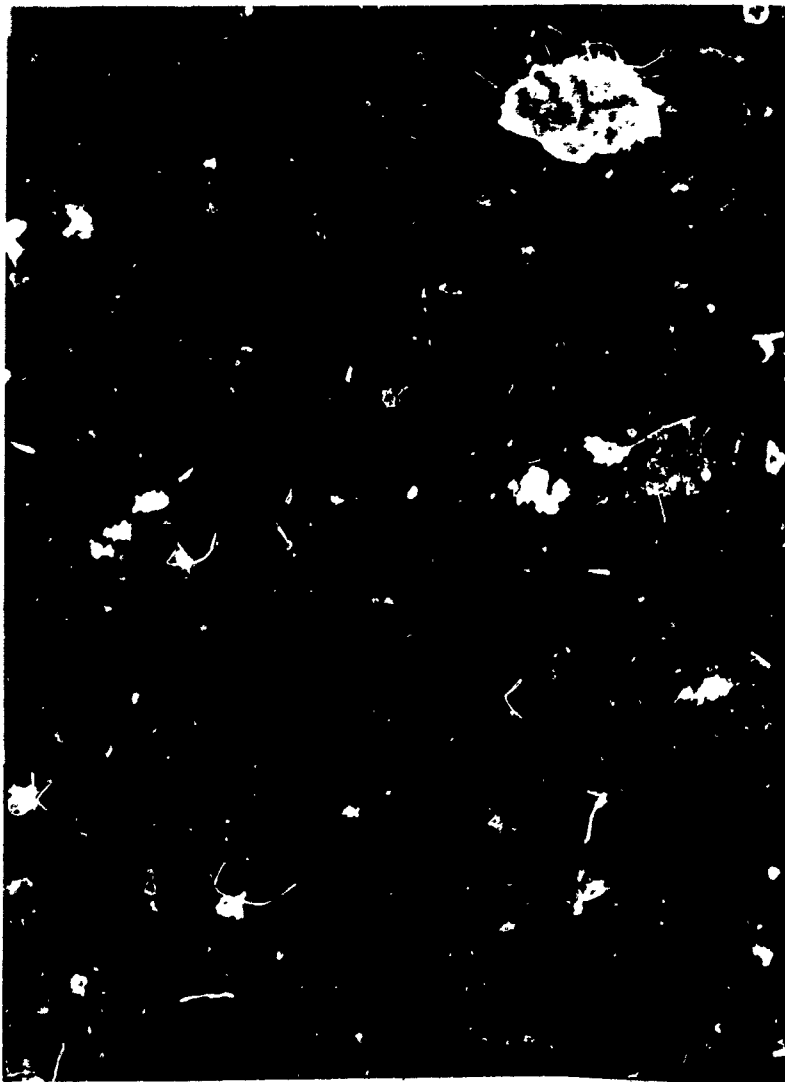

Figure 4.
b. Using the trainer and the illustration in figure 4, locate each of the numbered items. Write the name of each of these numbered items in the blank spaces below.
(1) _____
(2) _____
(3) _____